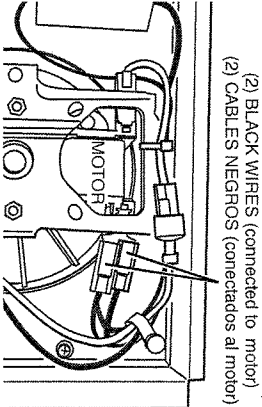

FIG. 11 - 120VAC TO 240VAC CONVERSION
2. **120 VAC to 240 VAC Conversion (FIGS. 11 & 12)**
2. **Conversion de 120 VCA a 240 VCA. (FIGS. 11 & 12)**